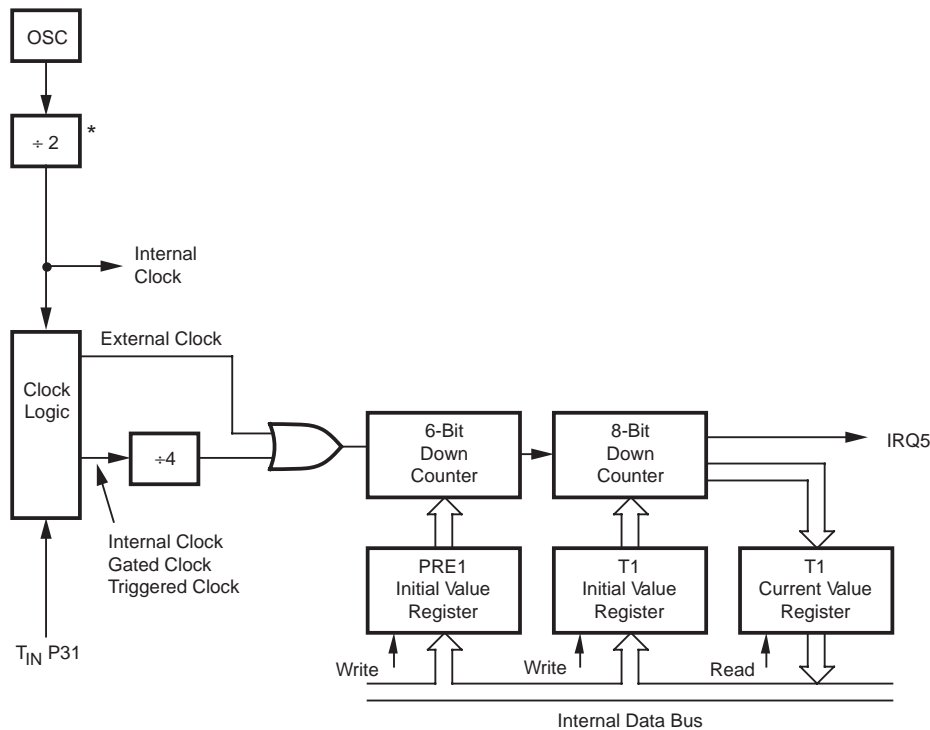

Figure 15. Counter/Timers Block Diagram
**Counter/Timer.** There is an 8-bit programmable counter/timers (T1), each driven by its 6-bit programmable prescaler. The T1 prescaler is driven by internal or external clock sources. (Figure 15).